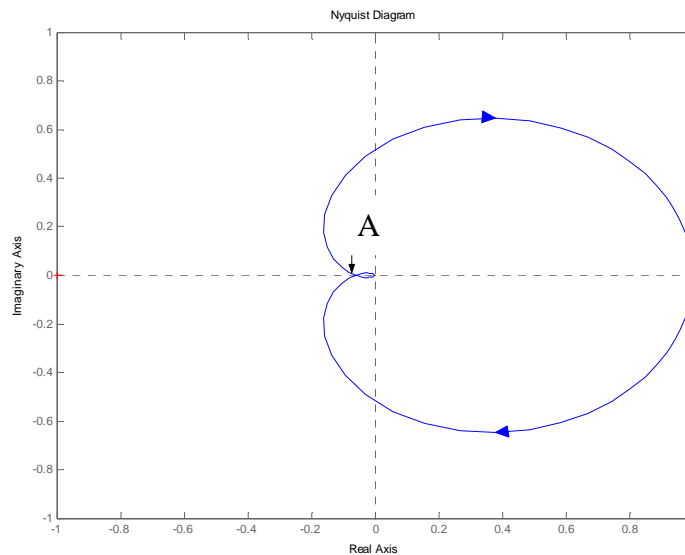

Figure 9.5
- (a) With $K = 1$, the Nyquist plot of the open-loop transfer function is shown in Figure 9.5. Determine the coordinates of the crossing point A and investigate the stability of the system.